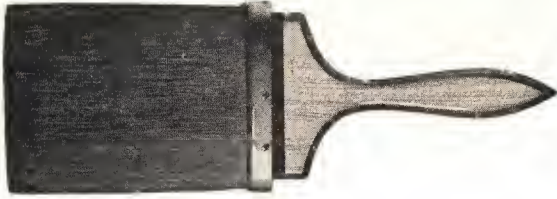

FIG. 4
**Flat Paint Brush, Figure 4:** A Chinese bristle metal bound flat paint brush built around the handle in the manner of a leather bound brush, with an open center; a vulcanized in rubber brush of very recent design. It is claimed to have all the advantages of both the leather bound and